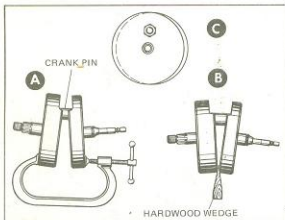

Figure 3-44. Correcting Flywheel Alignment
5. Flywheels may be out of true three ways, A, B and C, Figure 3-44 or a combination of two of the three ways.